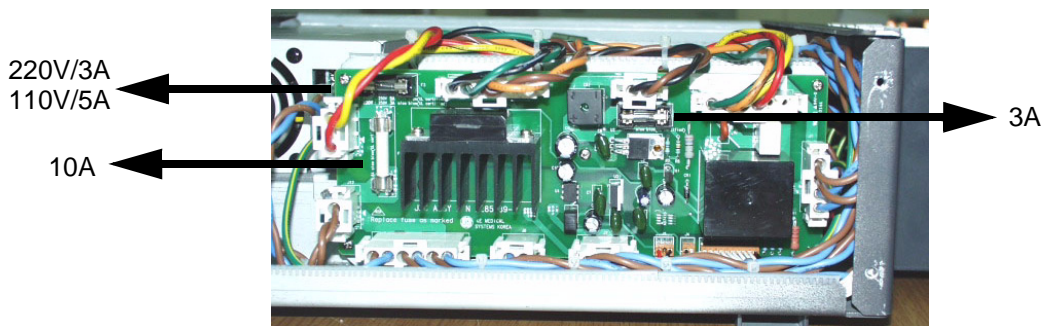

Figure 8-185 Removing the Fuse
- 1.) Unscrew four (4) screws (1-4) to remove Left side cover of AC Power assy.
- 2.) Remove the Fuses. Refer to Figure 8-185.